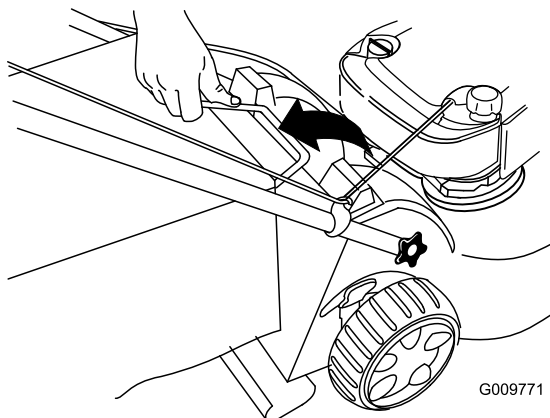

Figure 23
2. Lift the grass-bag handle out from the grooves at the top of the machine and remove the bag from the machine (Figure 23).